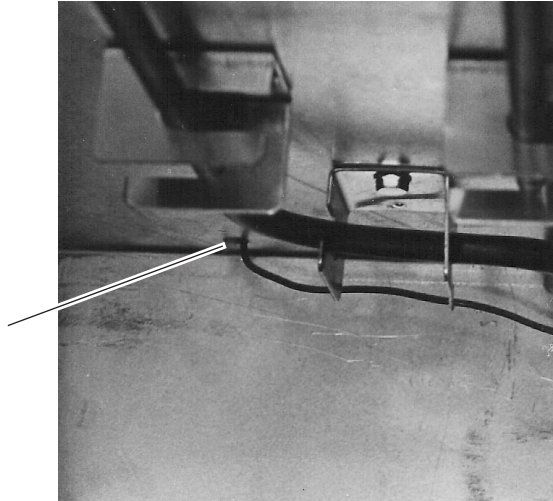

Fig. 18
9. Locate the bulb access hole in the oven cavity, top left hand corner, and carefully feed the bulb and thermopile lead through the opening. (Fig. 18)